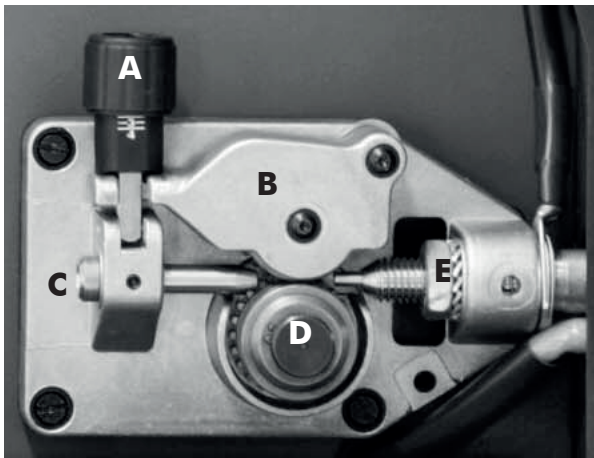

Figure 5
- Loosen and lower the plastic knob (A) (Fig.5). Open the pressure arm (B) of the feeder.
- Cut off a short section of the end of the wire to insure a straight end. Insert the the straight end into the wire inlet guide (C) past the wire feed roll and into the wire liner.
- Lower pressure arm (B) and lift pressure adjustment knob (A) into place.
- Adjust the pressure on the wire with knob (A) to insure smooth feeding without slippage. Do not over tighten the pressure adjustment as it may damage the motor.